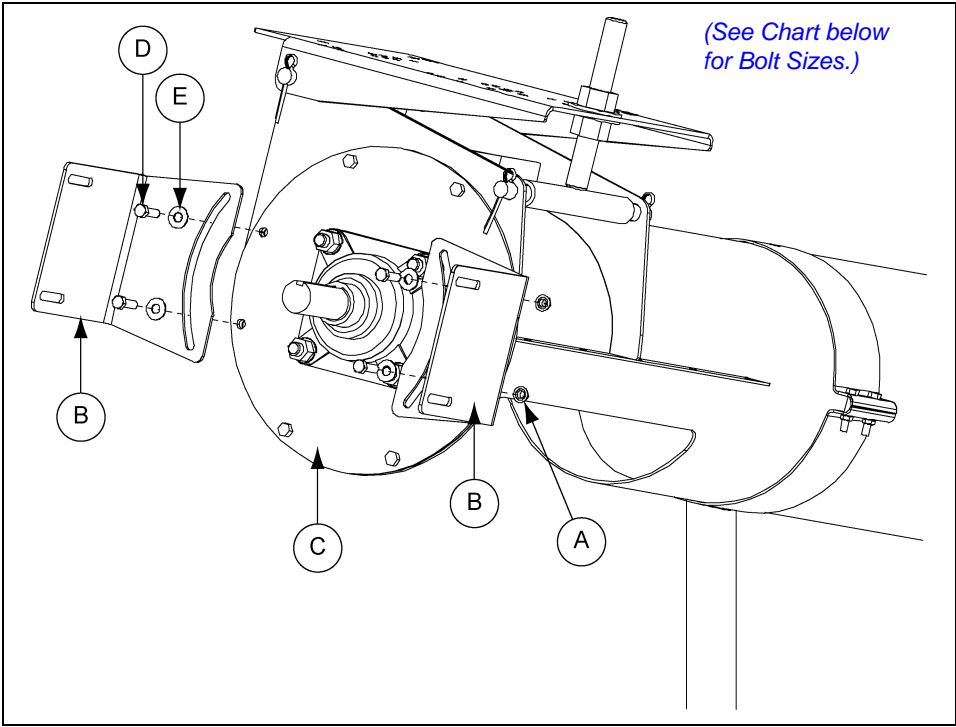

Figure 4H
- 2. Secure the brackets with proper bolts, flat washers and serrated flange nuts. (See Chart below and Figure 4H.)